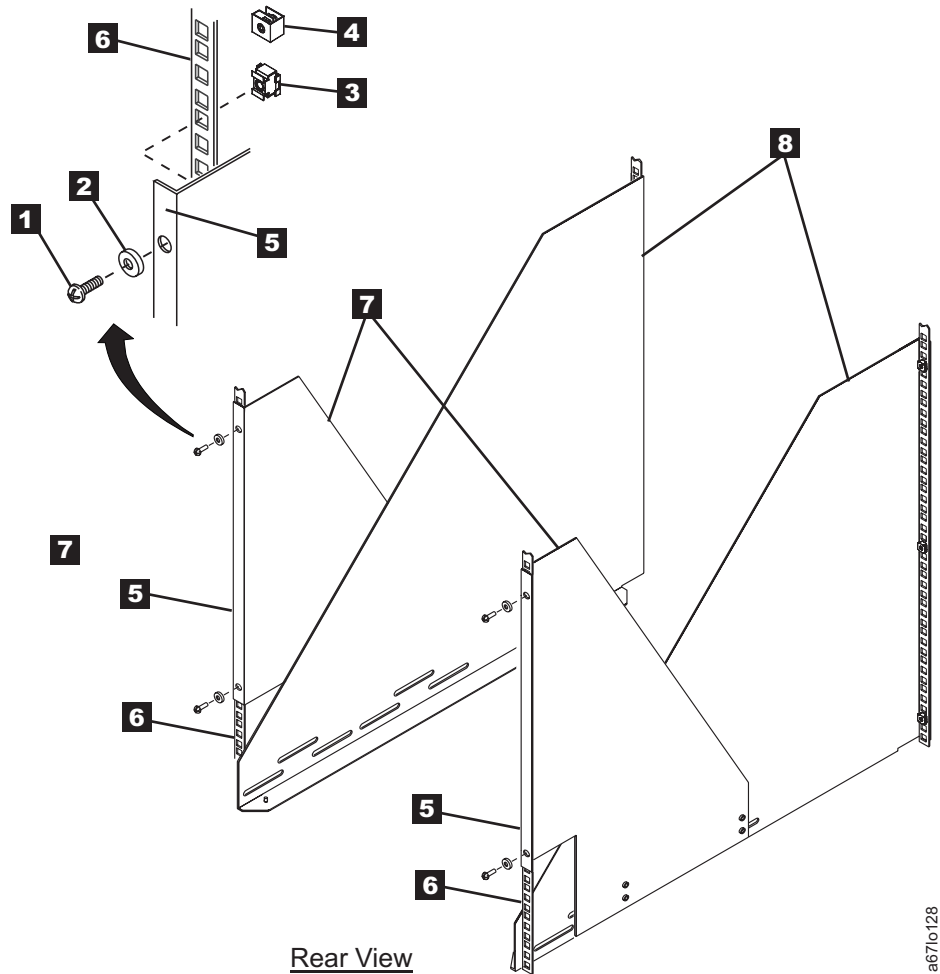

Figure 14-14. Installing the rear mounting brackets
8. Place one of the rear mounting brackets (see **7** in Figure 14-14) next to the rail **6**. Using the bracket as a template, install two cage nuts **3** (or clip nuts **4**) into the holes in the rail that are in line with the holes in the mounting bracket. Repeat this step for the second rear mounting bracket.